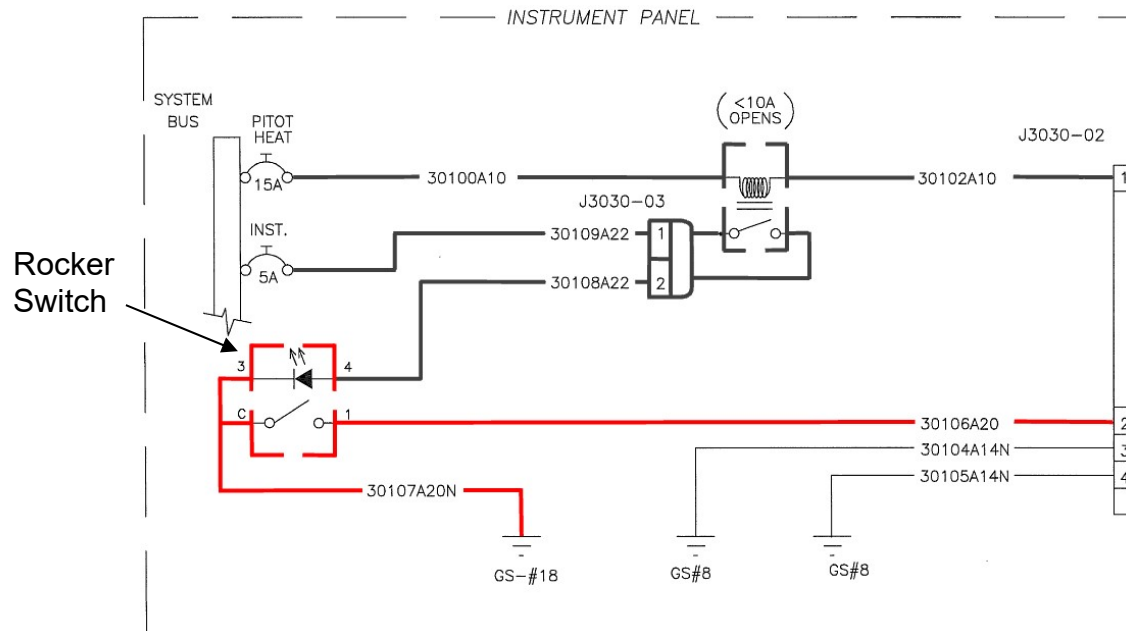

Figure 14: Instrument Panel Schematic highlighting the Rocker Switch Installation
11.2.3 Follow the instructions below to install the PITOT HEAT Rocker Switch connections, as shown in Figure 14.